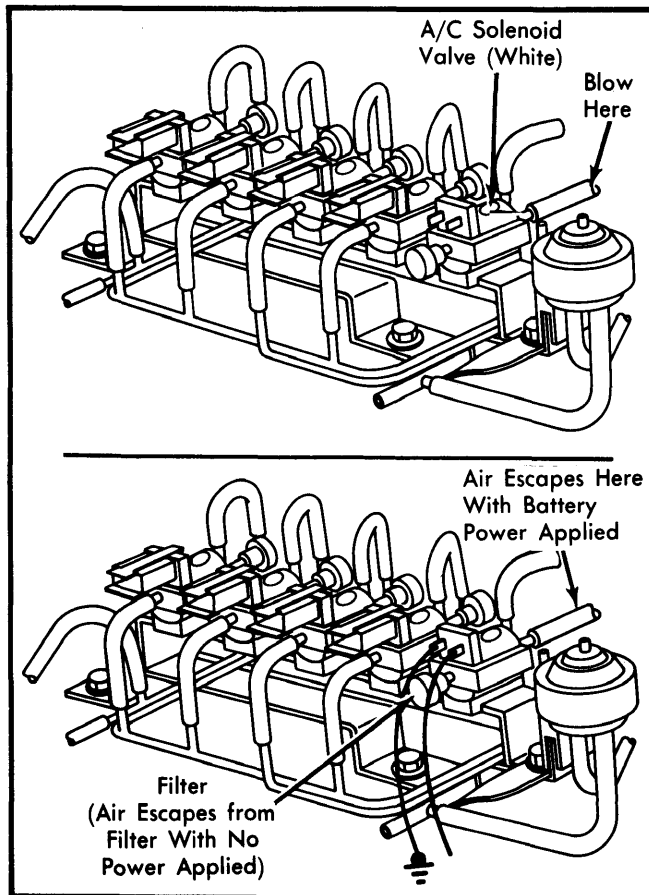

Fig. 4 Testing Air Conditioner Solenoid Valve
1) Disconnect vacuum sensing tubes from solenoid valve and vacuum port (rear of valve). Blow through vacuum hose and ensure air passes through valve and escapes from air filter. See Fig. 4.
2) Disconnect solenoid valve electrical connector and apply battery power to terminals. Blow through hose again. Air should pass through valve and escape from rear port. See Fig. 4. If valve does not respond as outlined, perform signal check.